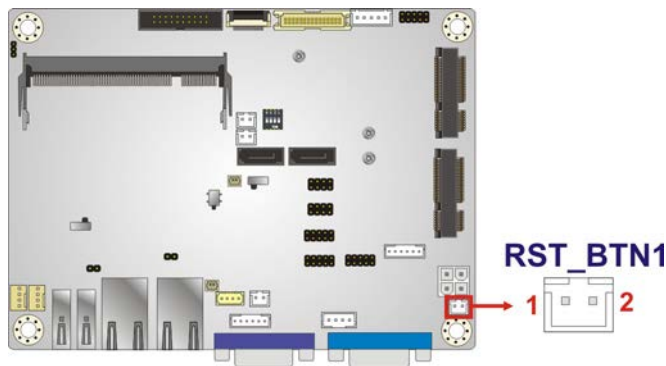

Figure 3-17: Reset Button Connector Location
- CN Location:** See **Figure 3-17**